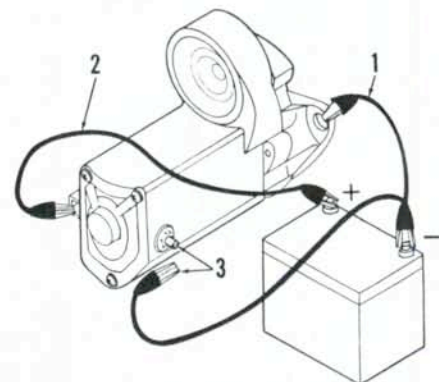

Fig. 161—Refer to text for checking starter solenoid on 1300 models.
96. Refer to Fig. 160 for an exploded view of starting motor. The starter solenoid is enclosed in housing (5). To check solenoid, connect wires (1, 2 and 3—Fig. 161) to locations indicated. The pinion should extend from housing. Disconnect wire (3) from terminal and pinion should remain extended. If pinion does not extend with all three jumper wires connected or if pinion does not remain extended when wire (3) is disconnected, renew solenoid assembly.